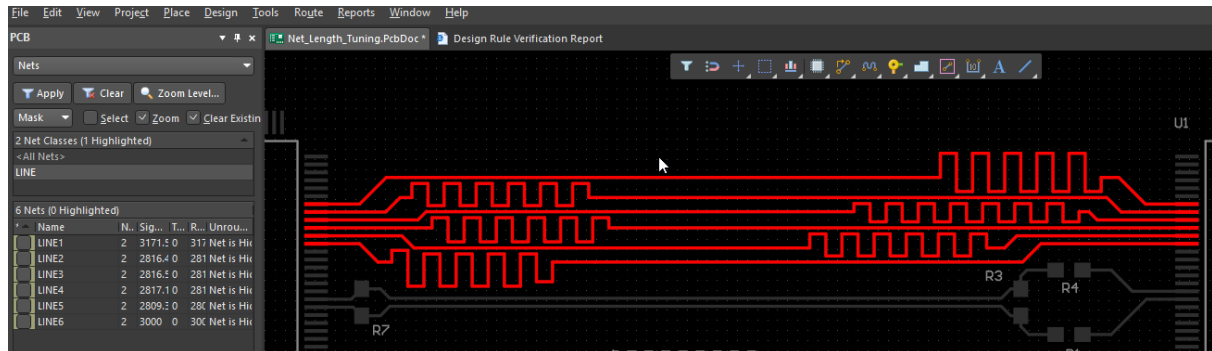

Figure 8. Staggered tuning on Line tracks
36. Your end result should look similar to Figure 8. The *Signal Lengths* in the *PCB* panel should no longer have an orange highlight, showing that we're adhering to the design rule.